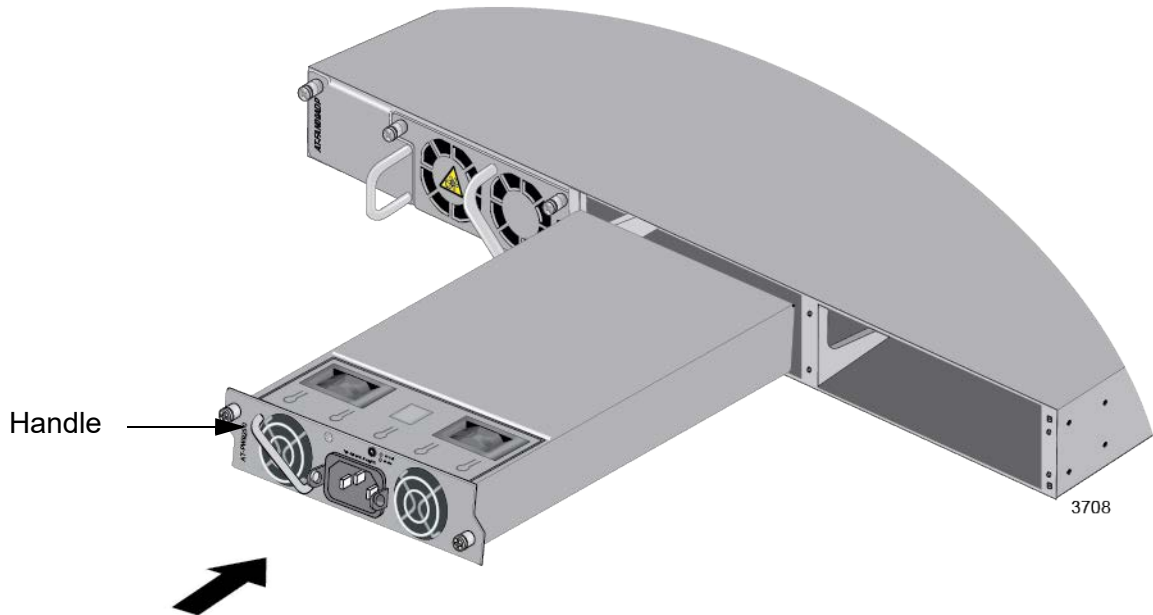

Figure 35. Installing a Power Supply
- Slide the new power supply into slot A in the back panel of the switch. Refer to Figure 35 on page 97.
- The handle on the power supply should be on the left as you install the module. Refer to Figure 35 on page 97.